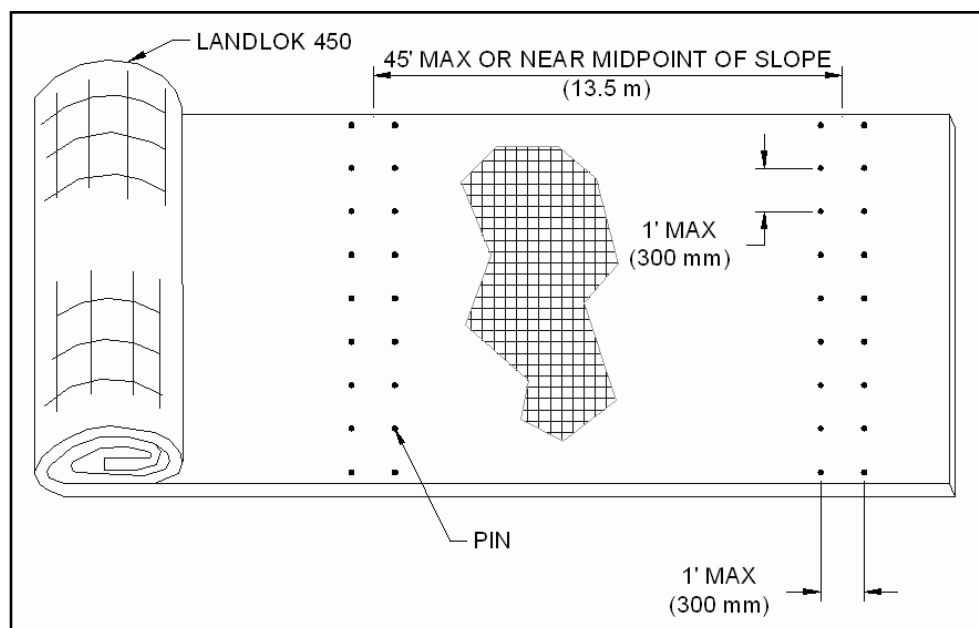

Figure 10: Simulated Check Slot
- For slope lengths greater than 45 ft (13.7 m), install simulated check slots. This method includes placing two rows of pins 12 in (300 mm) apart on 12 in (300 mm) centers at 45 ft (13.7 m) maximum intervals or across the midpoint of the slope for slope lengths less than 60 ft (18.2 m) (Figure 10).